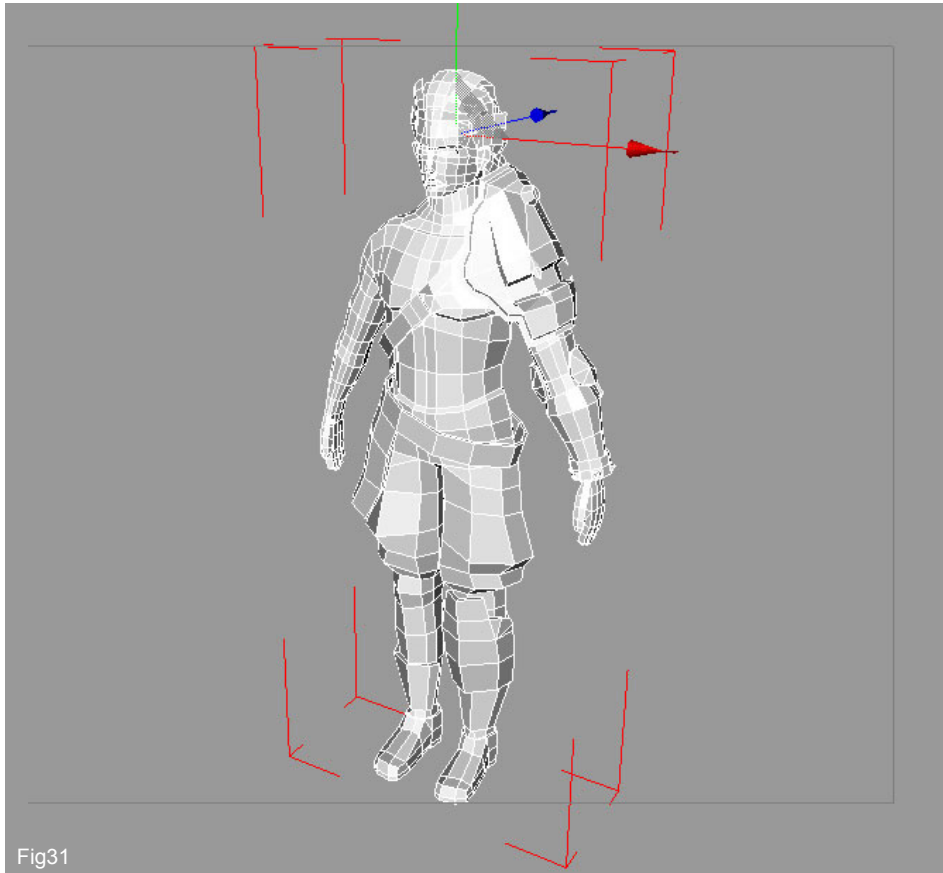

Fig31
31. Now as you remember from earlier on in the tutorial we unwrapped each of the meshes that make up our character. Before we begin the texturing phase we need to arrange all of our pieces into a template that we will export as a wireframe and will represent our final texture layout. In order to see all the unwrapped geometry together we will have to attach all the pieces of geometry into a single mesh temporarily. So connect the rest of the hair with the body as seen in Fig31.